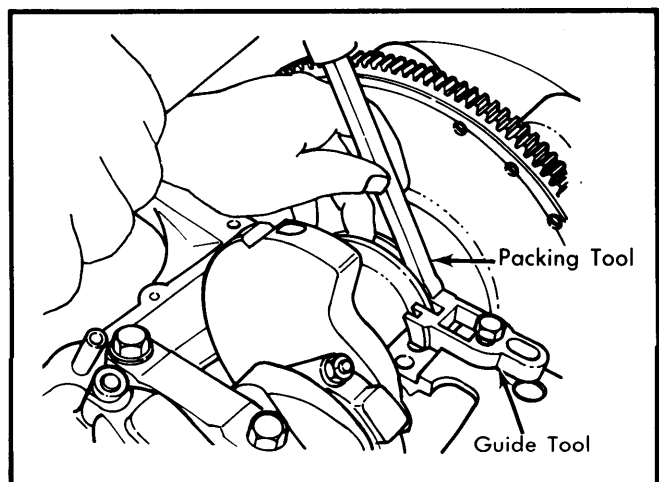

Fig. 6 Rear Main Seal Installation
3) Install guide tool (J-29114-1) onto cylinder block as shown in Fig. 6. Using packing tool, work the short pieces of old seal cut from rear main bearing cap onto guide tool.